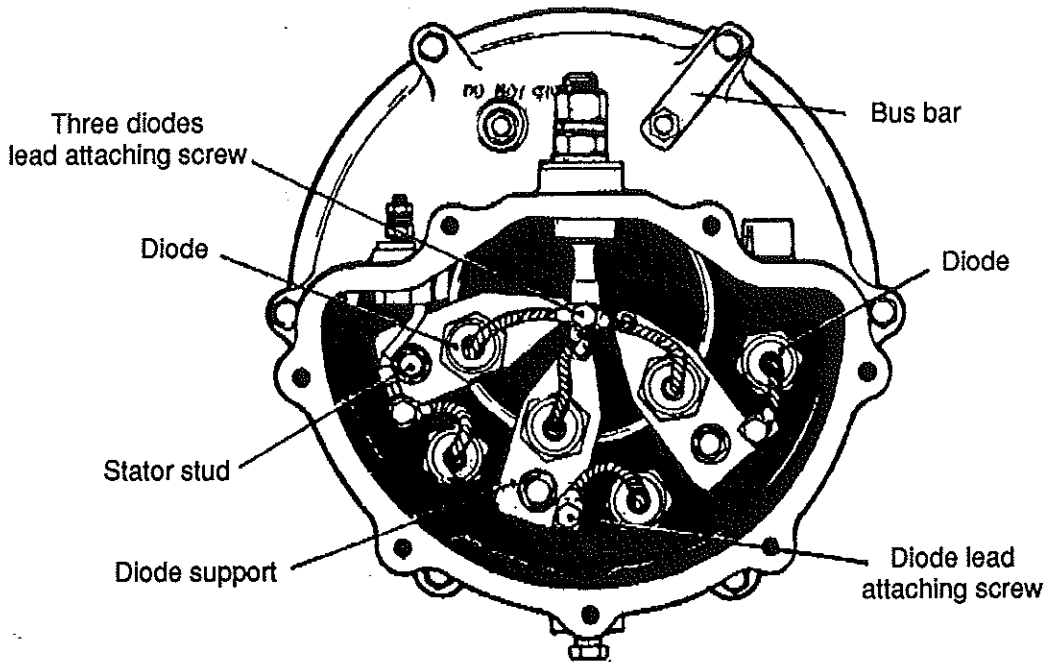

Fig. 24 - View of rectifier end frame with cover removed
5. Disconnect all diode flexible leads, i.e. three from the output terminal stud and three from the diode supports. See figure 24 for more details.